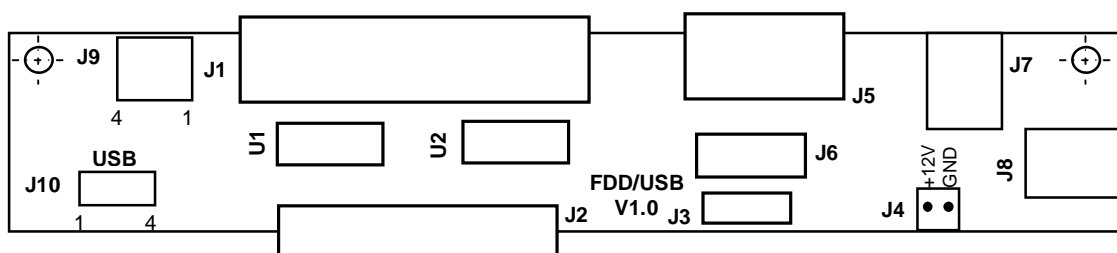

Figure A.3 – Arrangement of the Elements of the NC201-26 Card
10.1.3.1 The arrangement of connectors and jumpers of the **FDD/USB** connector card NC201-26 is shown in Figure A.3.